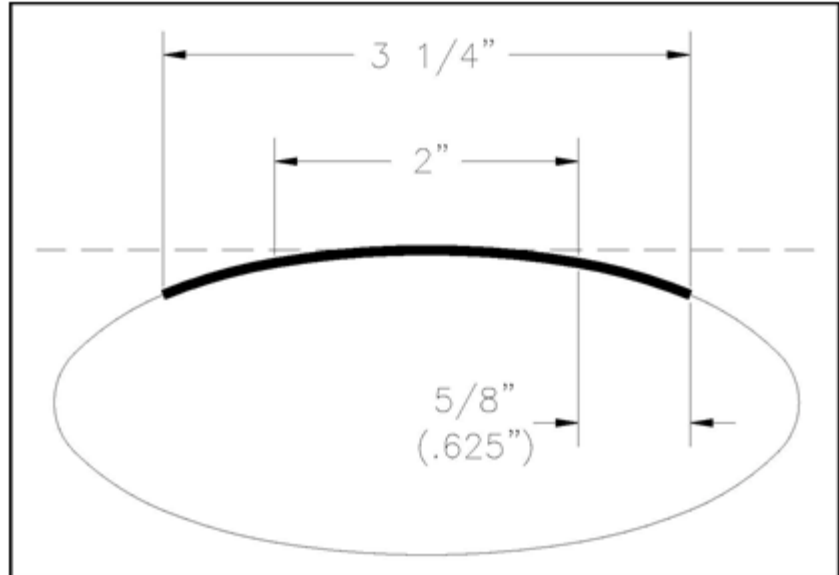

Figure 62 Fast Rise/Flat Area Estimation
1. Apply a label to the product by hand. Consider the profile of the product and estimate the distance from the beginning of the label (start of Fast Rise Length) to the start of the Flat Area Length (end of Fast Rise Length). Refer to Figure 62.
7. The estimated Flat Area Length is the label length less two times the estimated Fast Rise Length. See Figure 62.